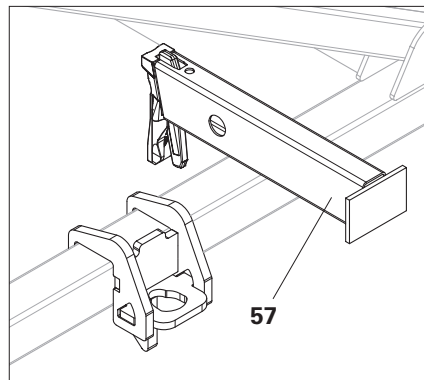
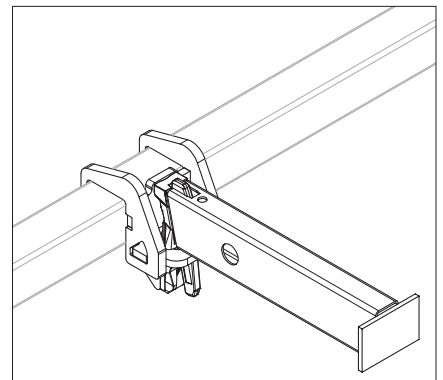

Fig. A13.03
Fig. A13.03a
3. Fit the Support UC 33 (**57**) in the ledger-to-ledger coupler and hammer in wedge tightly. (Fig. A13.03 + Fig. A13.03a)